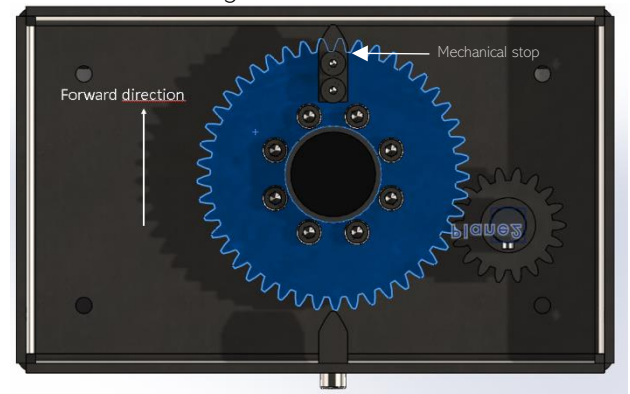

Figure 2 Mounting of driven gear
6. Attach the large gear to the ring using 8x M8x30 to 12 Nm, verify the mechanical stop is directly opposite of the affixed stop of the box. As can be seen in figure 2.